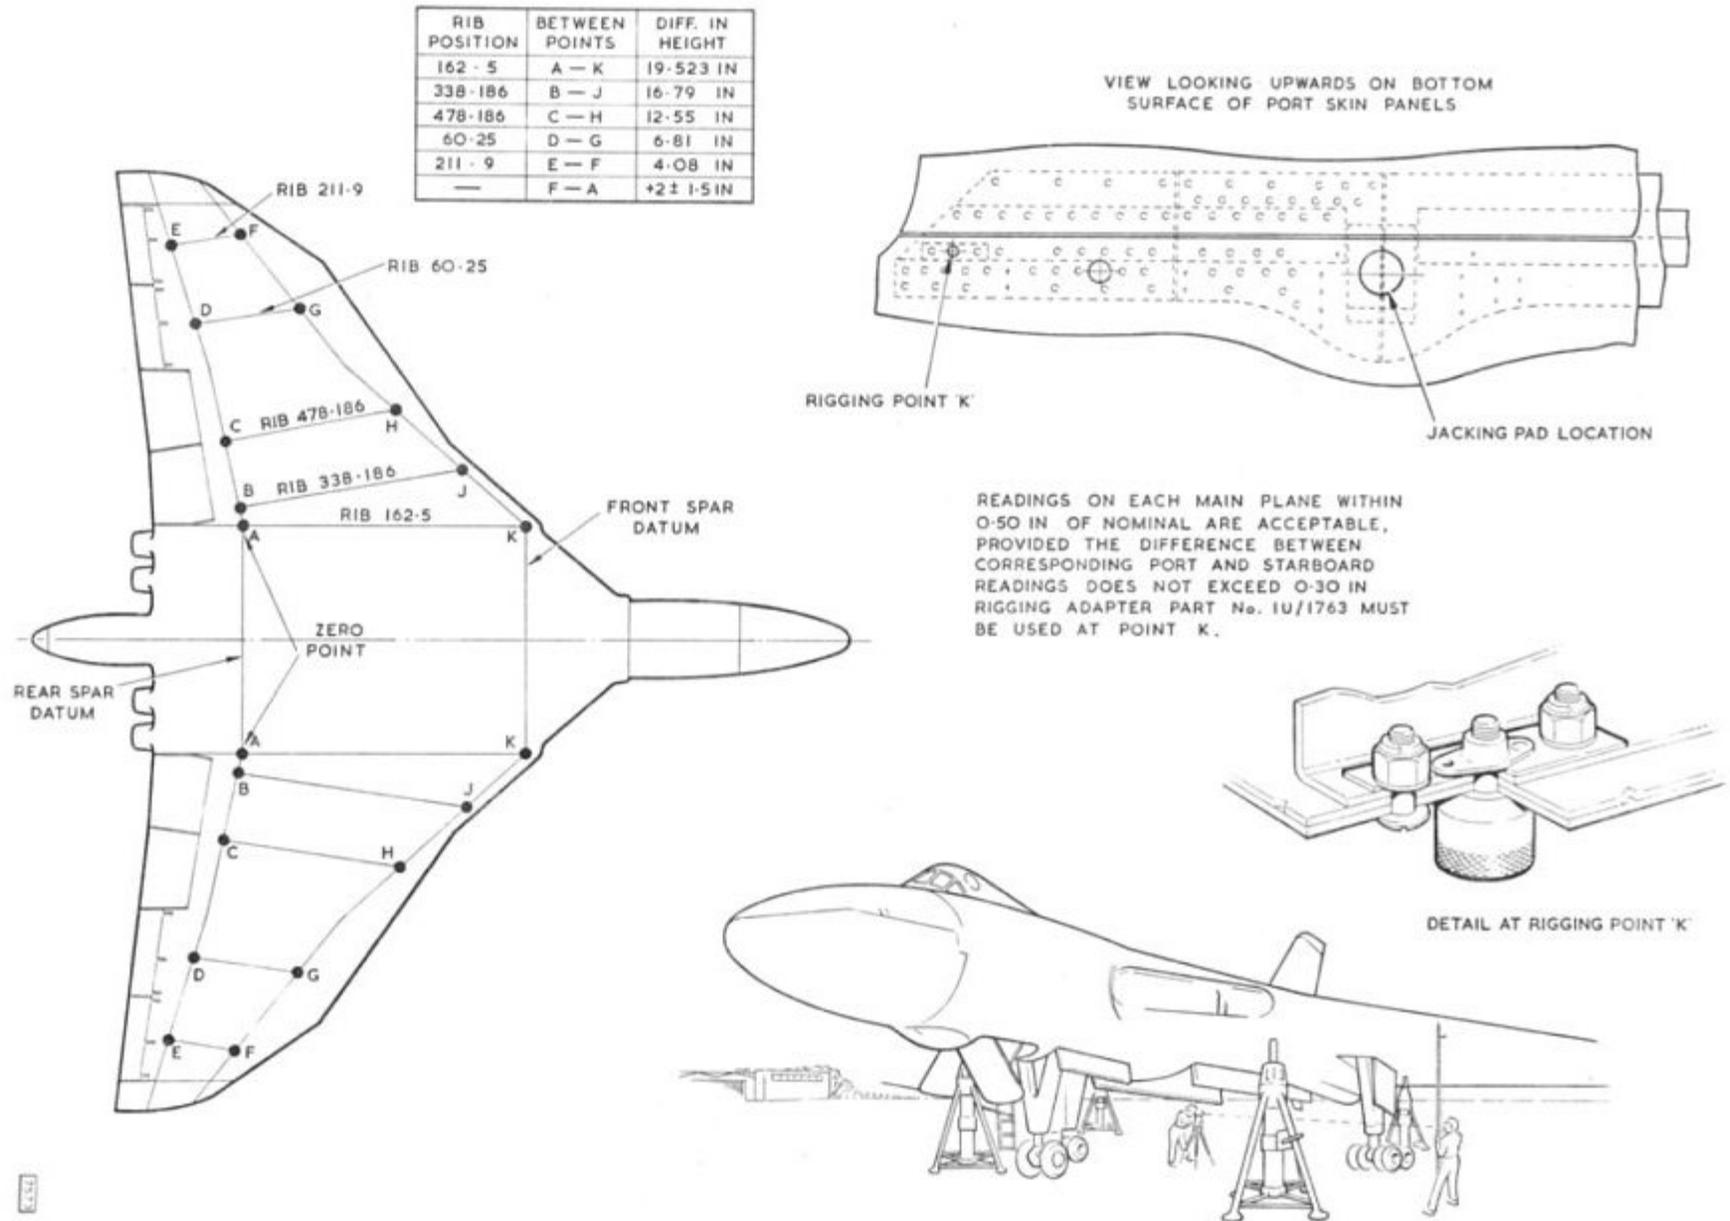

Fig. 6 Rigging of complete aircraft
15. A sighting rod and a dumpy level along with a tripod are required during these rigging checks. The location points for the sighting rod, which consist of cup-shaped fixtures in the lower surface of the aircraft, are shown on fig.6. Location points A to J are permanent fixtures, at point K the mushroom headed bolt must be removed from the location point (fig.6) and the adapter U.1763 Ref.No.26DC/95443 screwed into position. The sighting rod, which is spring-loaded, is positioned at the location points on the aircraft in the following manner:-
- (2) Place the dumpy level and tripod in position below and at the centre of the bomb bay (fig.6) with the dumpy level sight approximately 4 ft. 6 in. from the ground. Traverse the instrument to ensure that the sighting rod can be seen when held temporarily at any of the four location points on the transport ribs of the centre section and at the rigging points on both main planes. When the tripod is suitably positioned and the above conditions are satisfied, level the sight (para.15).
- (3) Remove the screwed plugs from the centre section locating points A and fit the adapter U.1763 to point K as detailed in para.15.
- (4) Place the pointed end of the sighting rod vertically at the rear location point on the port transport rib; this location is now
- (1) Ensure that the aircraft is jacked in the rigging position (para.16) and that the centre section is level (para.18).
- (2) With the dumpy level positioned as in para.16, sub-para.(2), traverse the level and ensure that the sighting rod location points are not obscured by the jacks, alighting gear, etc. Reposition and level the dumpy level as necessary.
- (3) Remove the plugs from the location points (their positions are shown in fig.6).
- (4) Place the sighting rod at the starboard 'zero point', and record the reading.
- (5) Position the rod at each successive rib position along the starboard front and rear spars and record the readings.
- (6) Repeat (4) and (5) on the port side of the main plane.
- (7) The incidence is correct if the
difference in heights recorded are as indicated in the table in fig.6.
20. From the readings recorded for the incidence checks, the dihedral may be checked by calculation. If the dihedral is correct, i.e., 0 deg., the difference in height of readings taken at point F and (zero) point A should be $+2 \pm 1.5$ in as indicated in the table in fig.6.